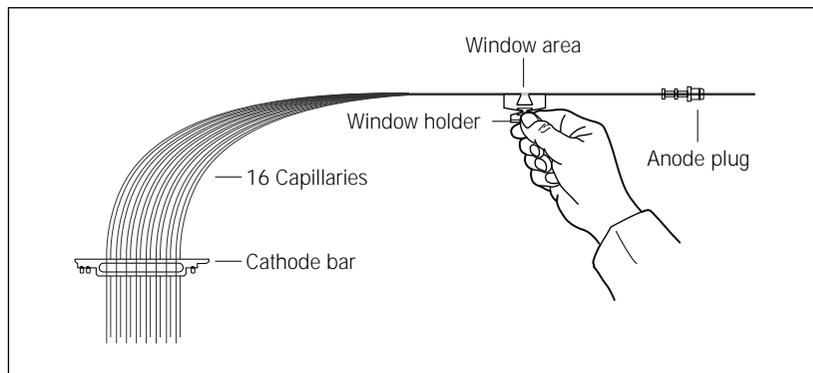

Figure 4-9. Cleaning the capillary windows.
3. Carefully grasp the capillary array by the window holder with one hand (figure 4-9), and with the other hand, use the wet swab to clean the entire window area (front and back).